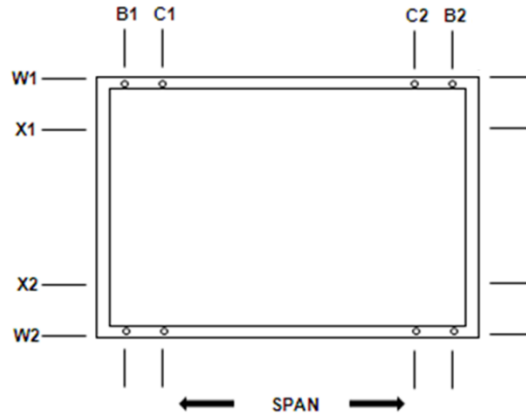

Figure D1: 72-cell and 60-cell Mounting Points
Each module must be affixed to the array structure at a minimum of four (4) points. If using pressure clamps, the clamp must engage an area of at least 1.5" x 0.18" [38mm x 4.5mm] along the top edge of the aluminum frame (glass side). The listed module types have been certified using the mounting positions and tested loads shown in Figures D1 and D2 and Tables D1 through D4 below. Positive (+) values indicate downward pressure as from accumulated snow; negative (-) values indicate uplift pressure as from wind. Please note that the module's rating depends upon the frame type, module size, and mounting points.